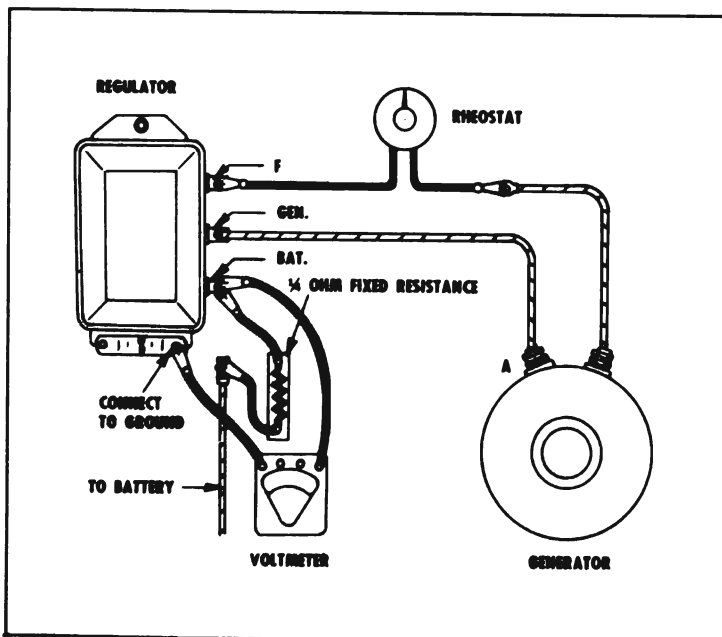

Figure 10-16—Testing Voltage Regulator
8. **Voltage Regulator Test.** Turn rheostat variable resistance to "OPEN" position and change one rheostat lead from ground to "F" terminal of regulator. Connect a $\frac{1}{4}$ ohm resistor (approximately 25 watts) into charging circuit at "Bat" terminal of regulator. See Figure 10-16.